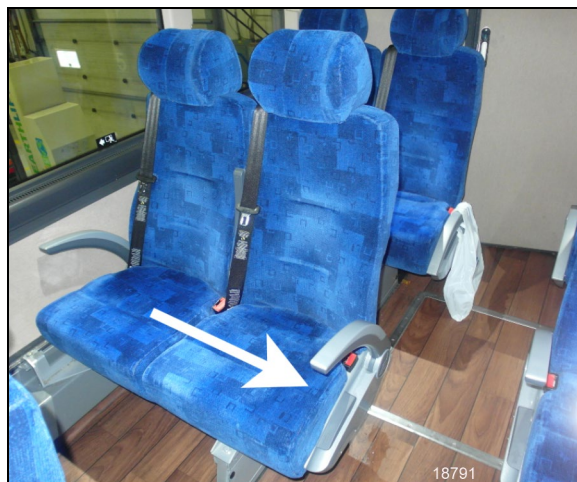

FIGURE 32: PULL TO UNLOCK THE ROTATION
2. Pull the seat toward the aisle to unlock the rotation (Figure 32).